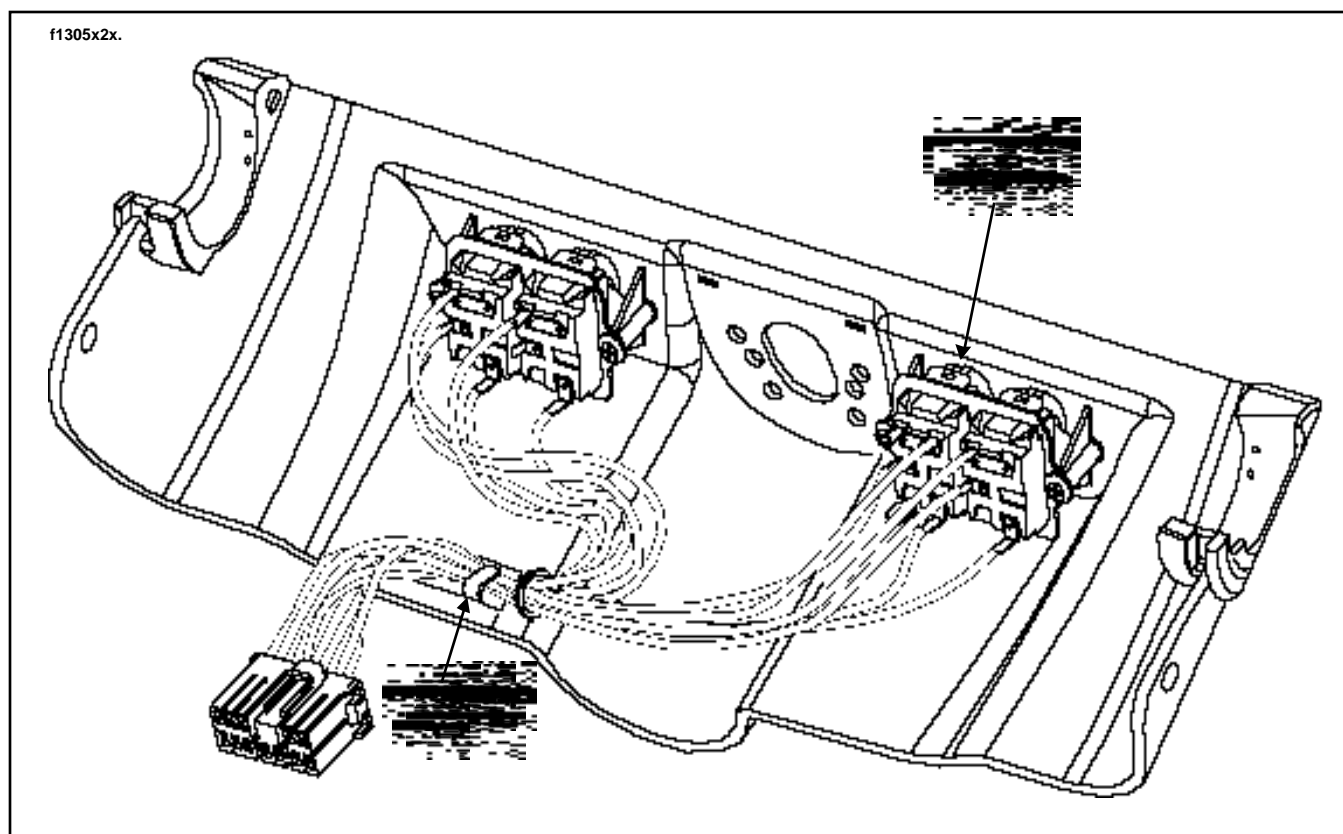

Figure 1. Locating Flexible Clamp Retaining Wires
1. See Figure 1. With the forks turned fully to the left, reach up under right side of fairing cap and gently open the flexible clamp.